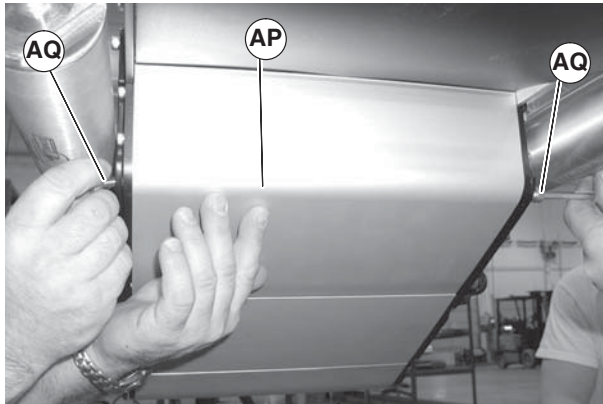

Figure 45
2. Temporarily support idler guard assembly (Figure 45, item AP). Remove screws (AQ).